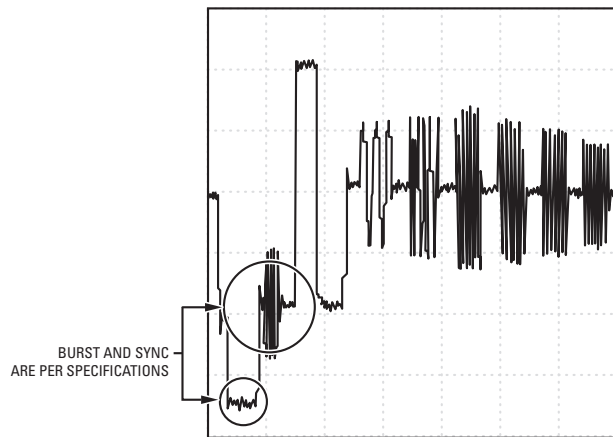
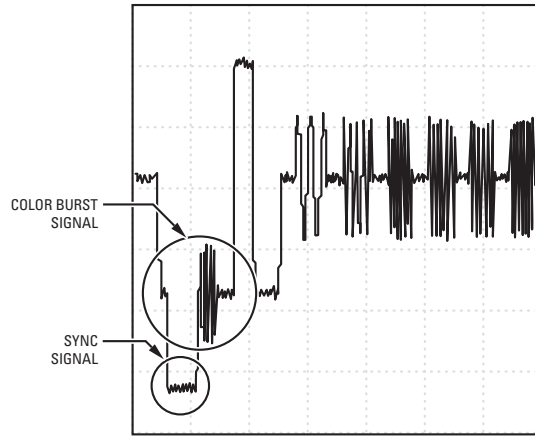

Figure 10. Color Burst and Sync are per Specifications
Figure 11. Ideal Video Signal
4. Disconnect and then reconnect the video source. If the LED is green and the color video range on the oscilloscope resembles Figure 10, then the gain is sufficient. The color burst and sync closely match the output of the ideal video signal (refer to Figure 11).
7. If the video signal is still out of range, turn the rotary switch to the next switch position, and then repeat step 4. Continue to repeat this process until the LED glows green, and the color video range on the oscilloscope resembles Figure 10 and Figure 11.